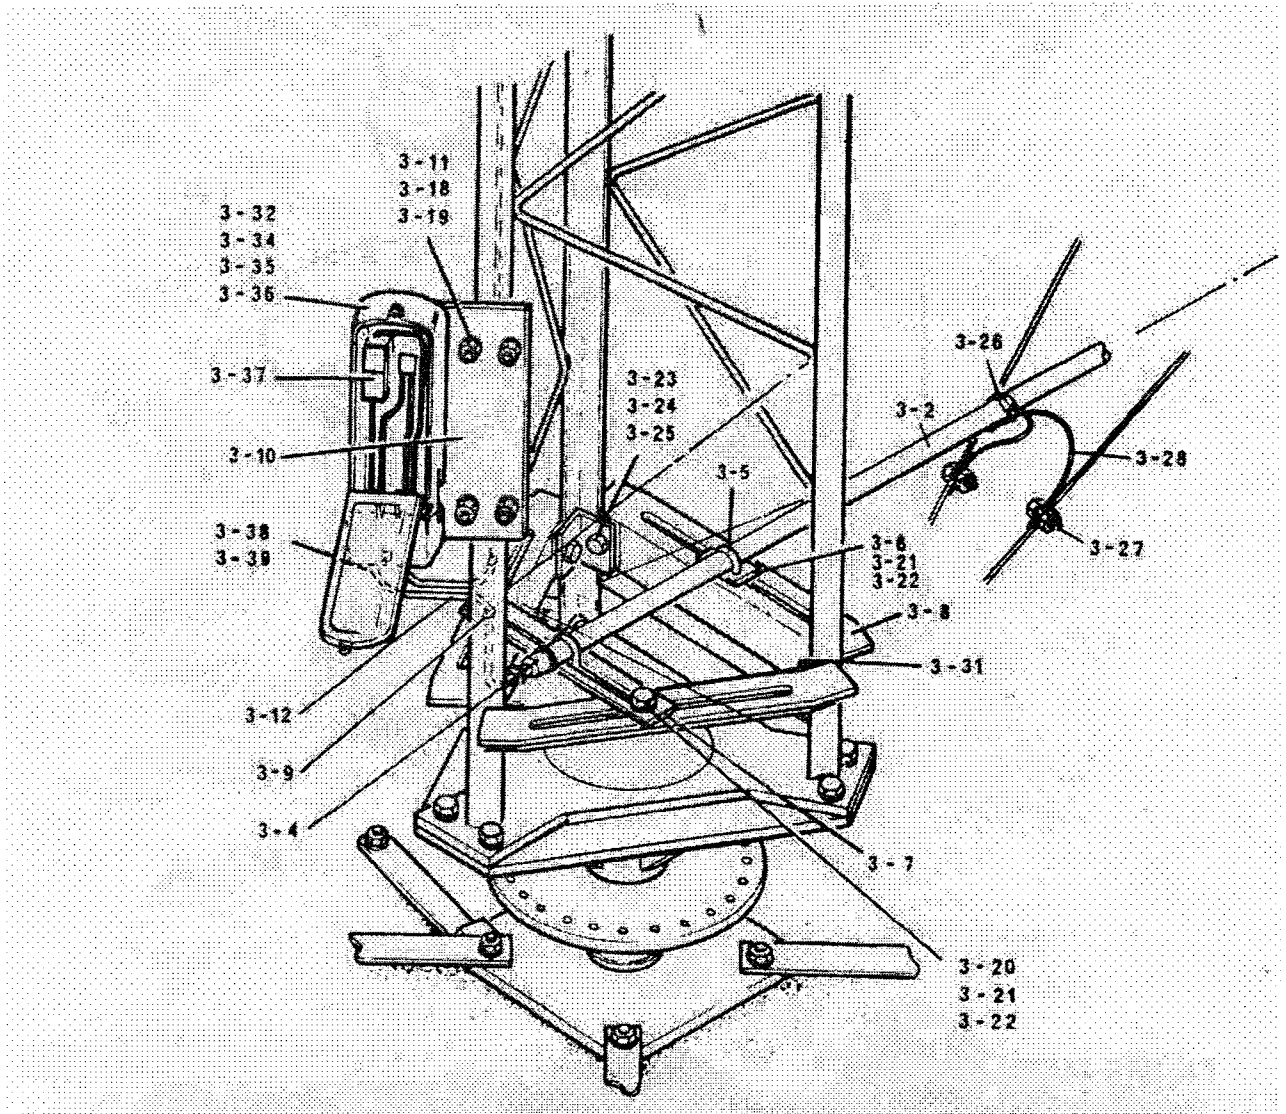

FIGURE 22A – Lighting Transformer Support Tube and Fuse Box Mounting
- Step 17 Attach the two copper connecting strops to the upper spigot using the worm drive clip - ensuring that the strops are in contact with the spigot. See figure 22A.